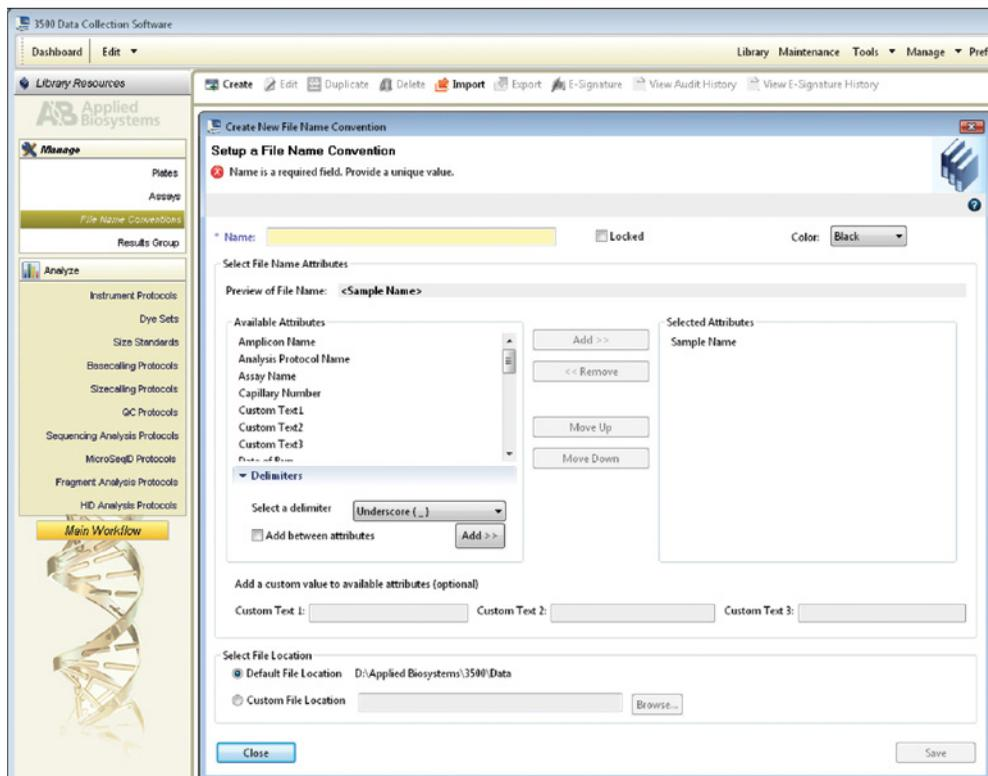

Figure 6. The ‘Create New File Name Convention’ window.
2.e. To create a new File Name Convention (Figure 6), navigate to the Library. Select **File Name Conventions**, and then select **Create**. Alternatively, a previously created File Name Convention can be used.